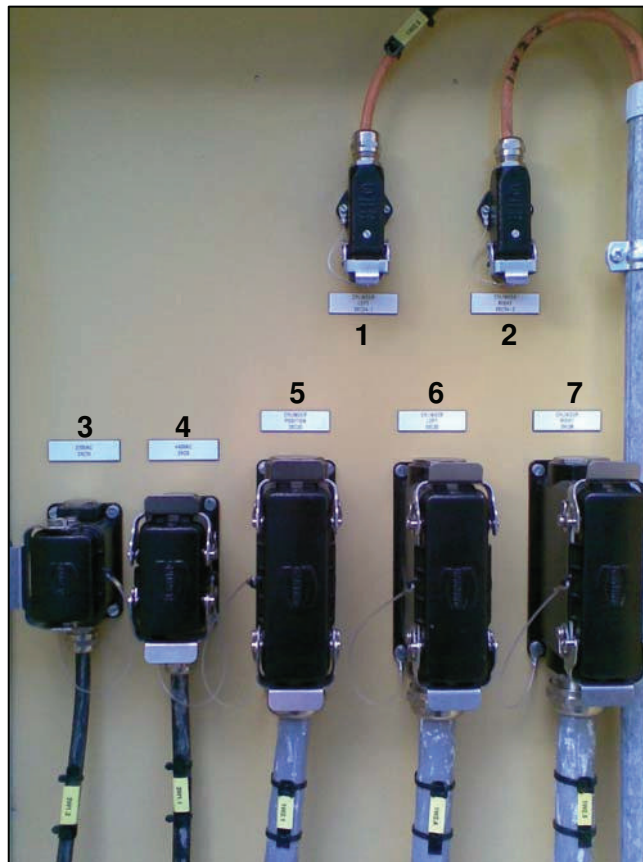

Figure 3-5: Electrical connection box
- The electrical connection box contains 7 connectors as shown in Figure 3-5.